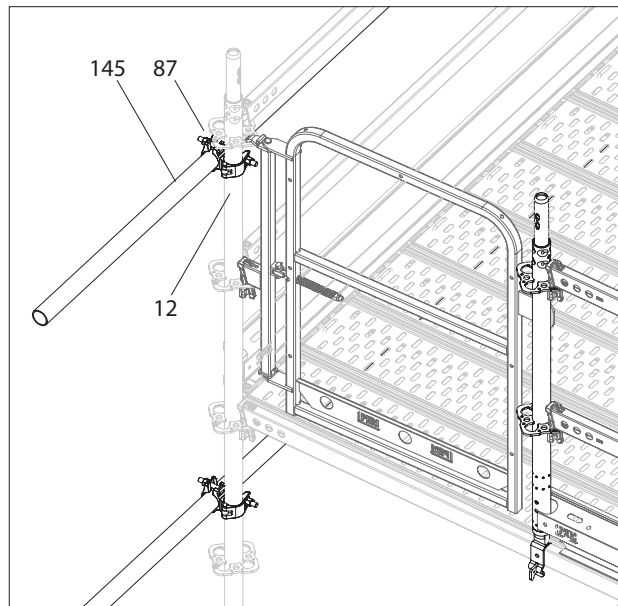
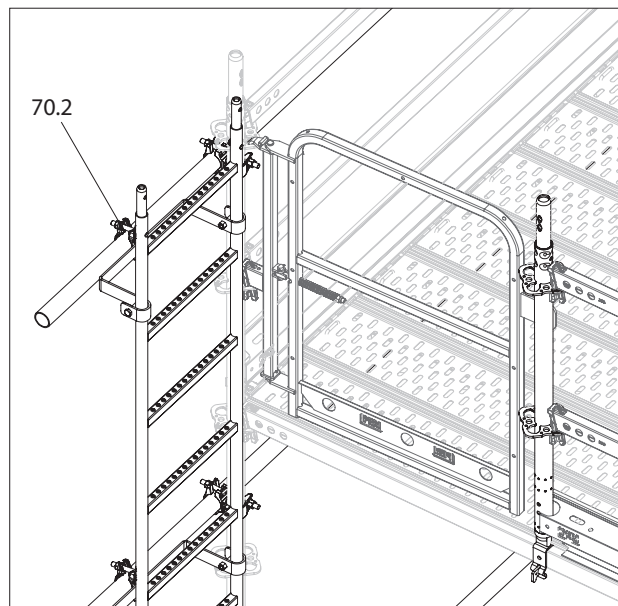

Fig. A9.08b
Fig. A9.08c
4. Screw the scaffolding tube (145) to at least 2 standards (12) with standard couplers (87). (Fig. A9.08c) Distance between standards must be equal to the cantilever at least. (Fig. A9.08b)
5. Screw the ladder connector to the projecting scaffolding tube with the tube coupling (70.2). (Fig. A9.08b)